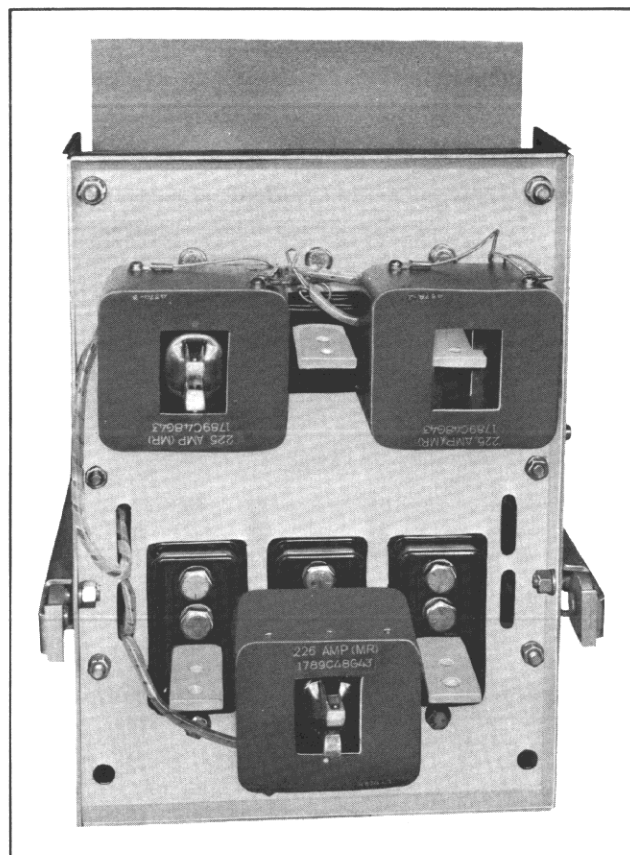

Fig. 18 Mounting of Sensors and Harness DB-15
7. Remove the finger clusters from the top two outside studs, and from the middle bottom stud. Place the sensors on the top studs with the terminals of the sensors in the upright position (Fig. 18) and the bottom sensor terminal in the downward position. The lower end of the harness is slit into two groups for attaching to the sensors. The wires to the top sensors are brought upward along the frame while the portion to the lower sensor is brought down between the phases. Attach the wire ends to the sensors making positive that the polarities are correct.